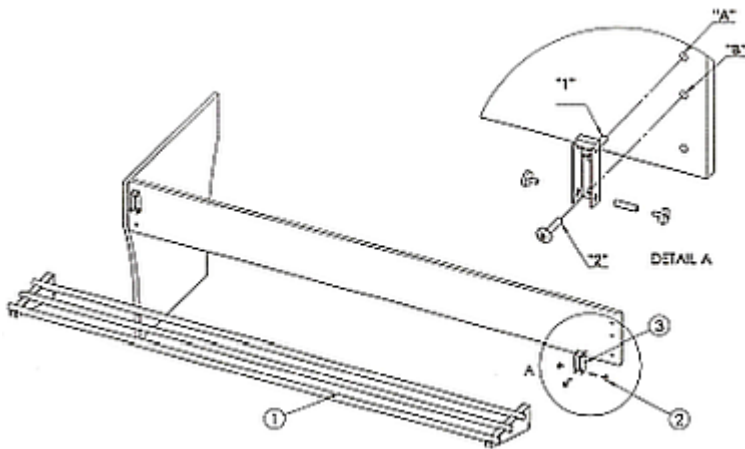

Fig. 4
1. To assemble the support ③ (Fig. 4) of the tray slide, use 'A' and 'B' holes (the 1st and 2nd hole from the top in the wooden panel).
3. Assemble the support ③ on the wooden panel, by screwing together the '1' screw with the 'A' hole and the '2' screw with the 'B' hole.
4. Fit the tray slide ① onto the supports and fix it with the enclosed distance screw ②.